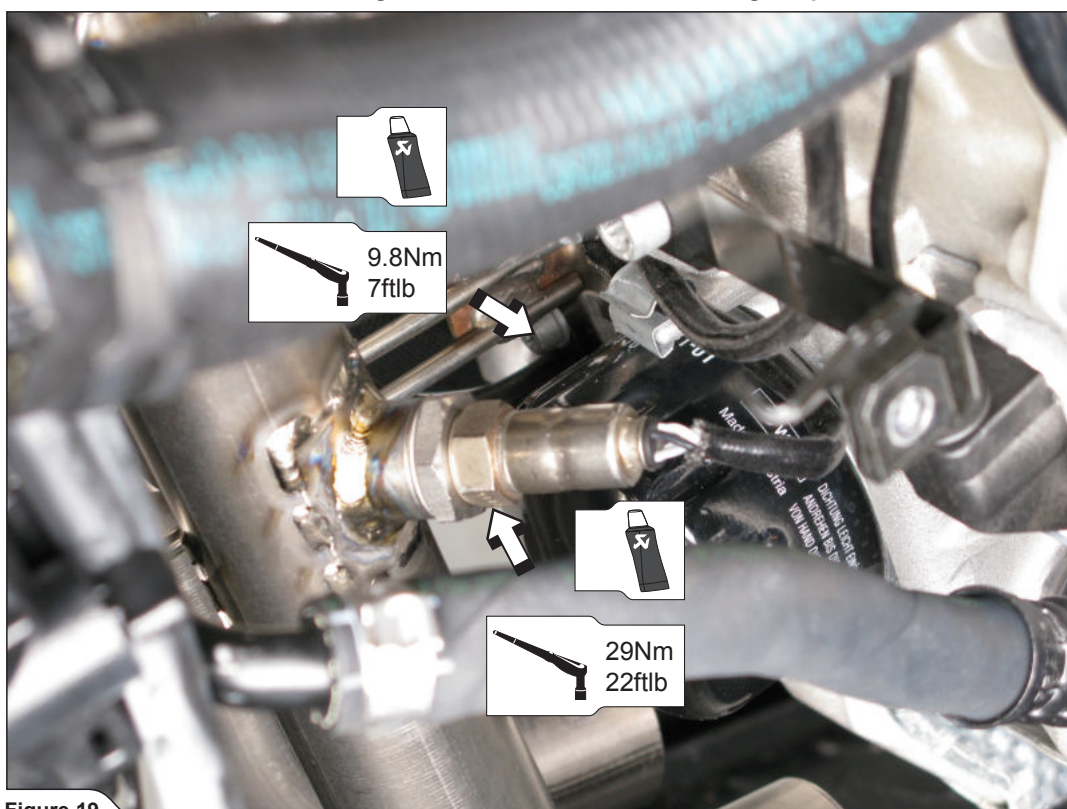

Figure 19
3. Tighten the lambda sensors into the middle header tubes and radiator bracket onto the cylinder block. Attach the sensor's electrical leads into the stock electrical lead brackets, as shown (**Figure 19**).